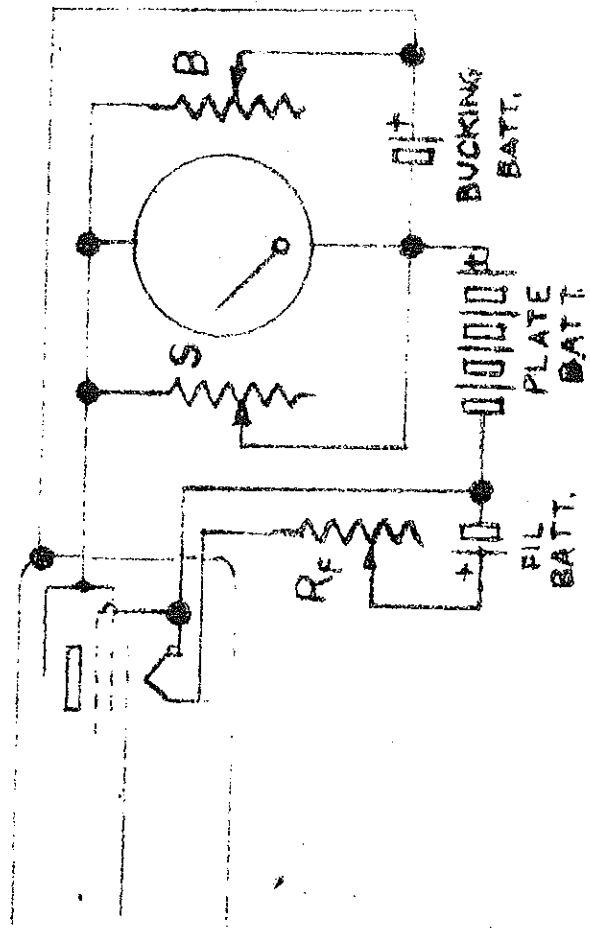

FIG 2
1.2 THE BASIC CIRCUIT: The basic circuit used in the instrument is quite simple, as illustrated in Figure 2.